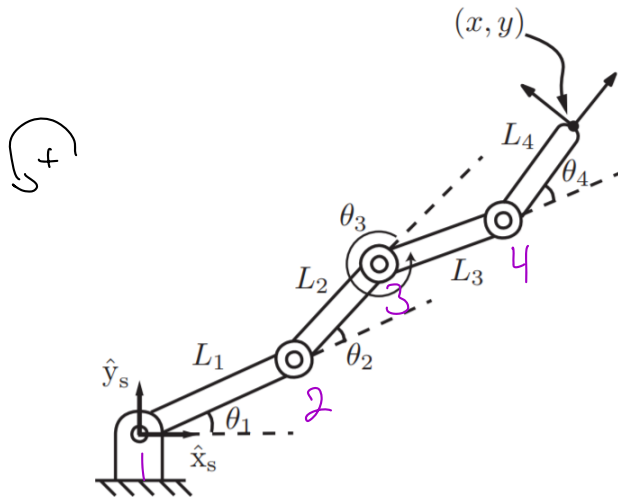

Figure 1: A 4R planar open chain.
1. (10pts) Answer the following questions for the 4R planar open chain of Fig. 1